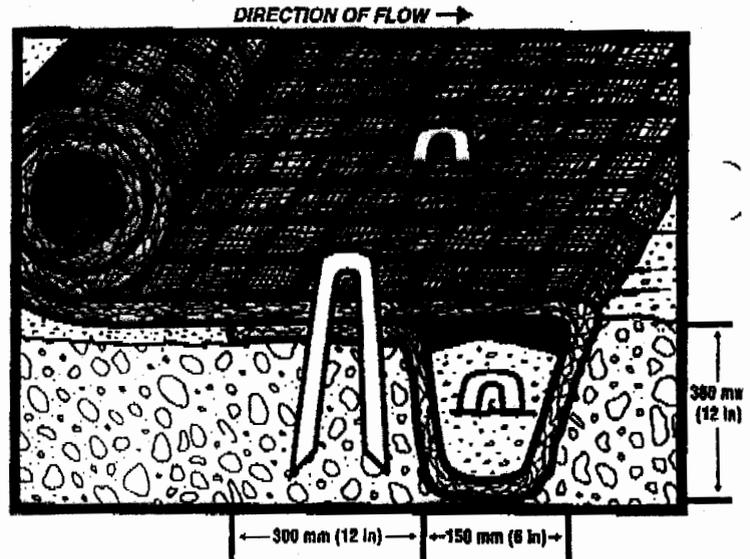

Figure 1: Initial Anchor Trench (Channels)
- Excavate an initial anchor trench 300 mm (12 in) deep and 150 mm (6 in) wide across the channel at the lower end of the project area (Figure 1).
- Beginning at the center of downstream end of the channel, place the end of the first roll in the anchor trench and secure with fastening devices at 300 mm (1 ft) intervals (Figure 1). Note: TRM will initially be upside down in anchor trench; smaller netting on top.